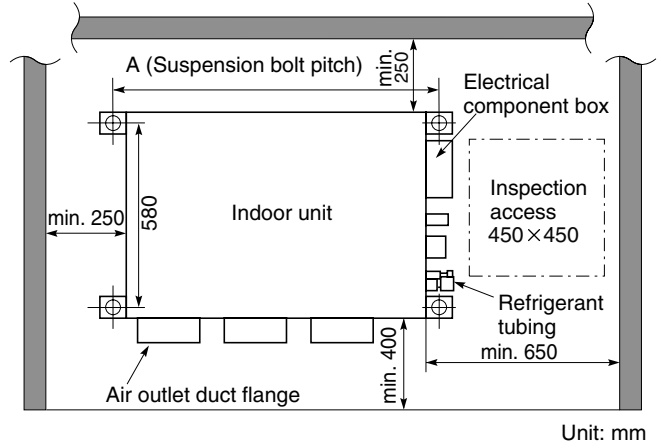

Fig. 3-134
- The minimum space for installation and service is shown in Fig. 3-134 and Table 3-5.
(Fig. 3-134 and Table 3-5)